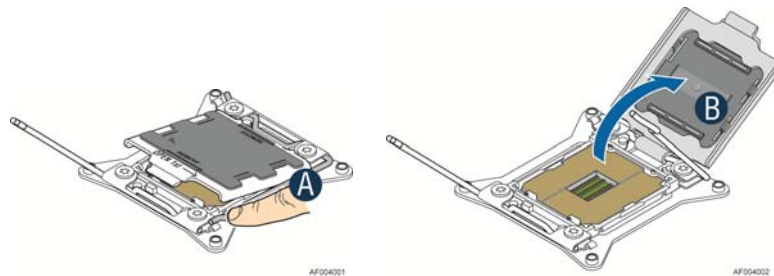

Figure 33. Installing Processor – Open the Load Plate
3. Open the load plate, see Figure 33.